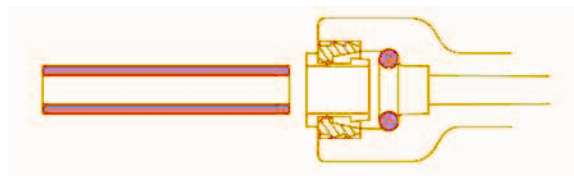

Figure 16
1. Use a sharp cutter or knife to cut the end of tubing. Always cut the tubing square. See Figure 16.
2. Inspect the end (about 1") of the tubing to be sure there are no nicks, scratches or other rough spots. If needed, cut the tubing again. See Figure 16.